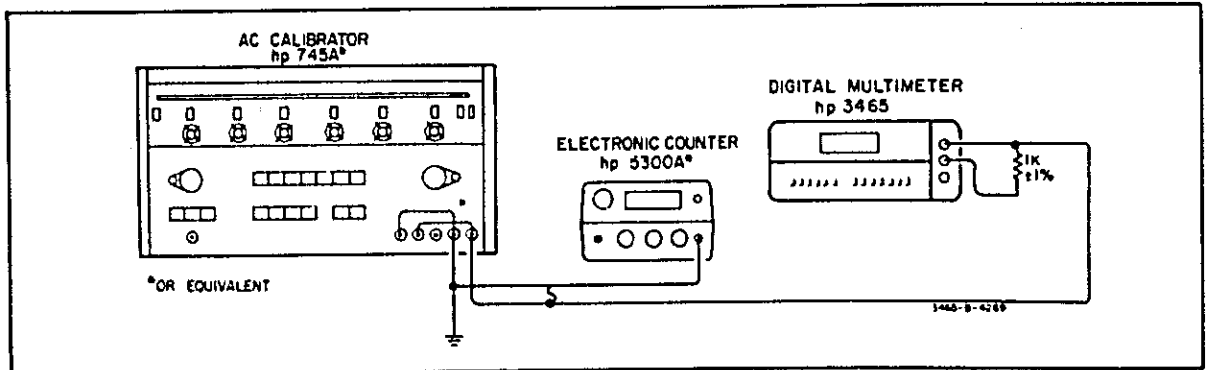

Figure 5-6. AC Effective Common-Mode Rejection Test.
- b. Set the Multimeter function to DCV (V) and range to 20 mV . Note the Multimeter indication.
- c. Connect the AC Calibrator to the Multimeter as shown in Figure 5-6.